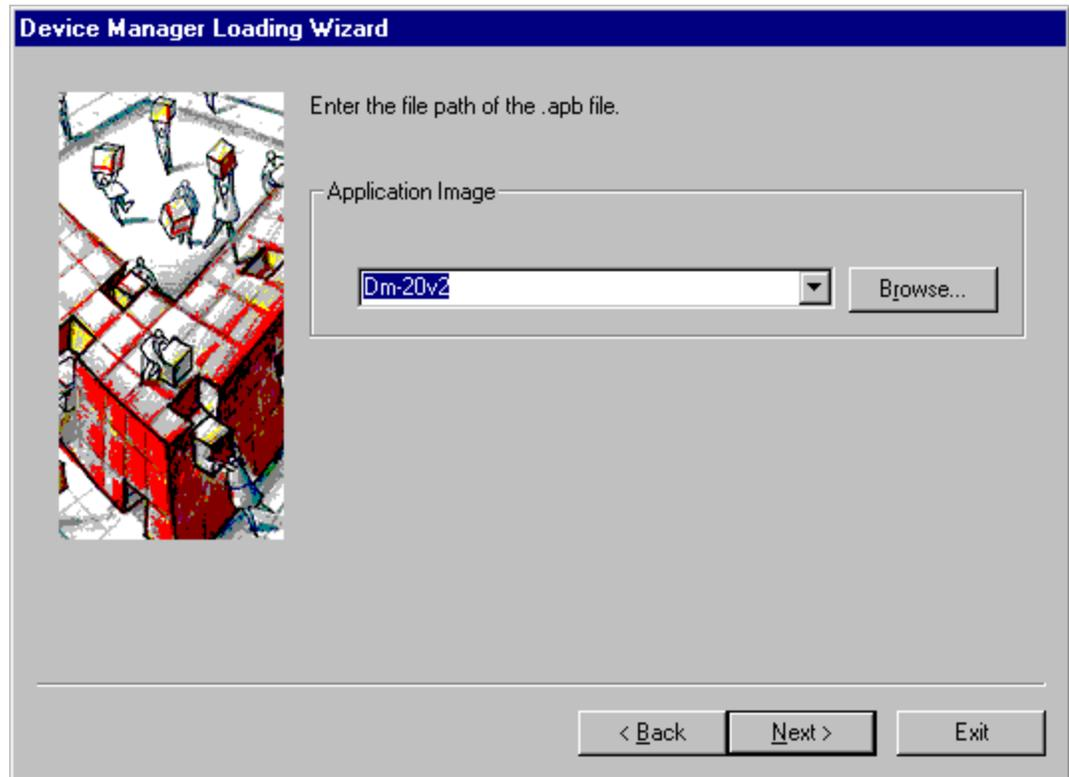

Figure 7.5 – Select Application Image
3. Click Next. The window shown in figure 7.5 will appear.